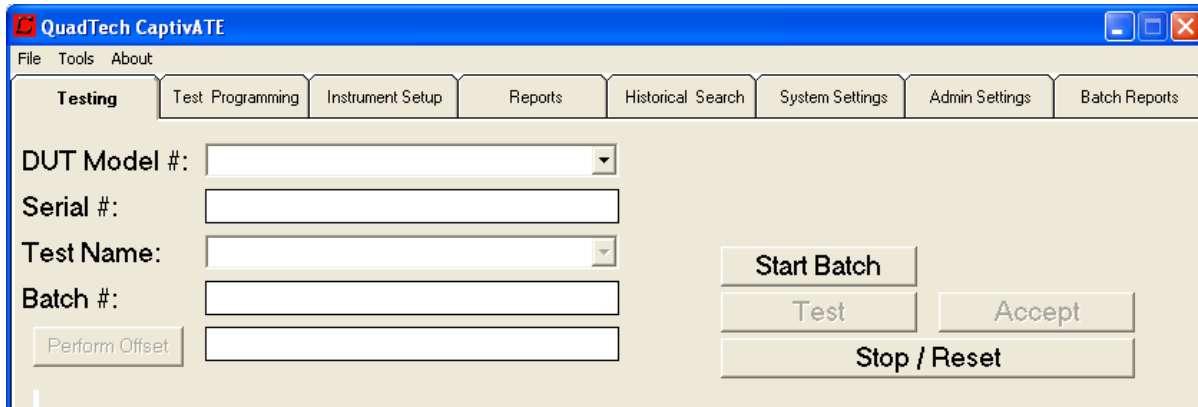

Figure 87 Testing Screen with Batch Buttons
4. To start a batch on the *Testing* screen, enter a number or name in the Batch # text box. In the unlabeled text box pointed to in Figure 87, enter a name for the batch test.